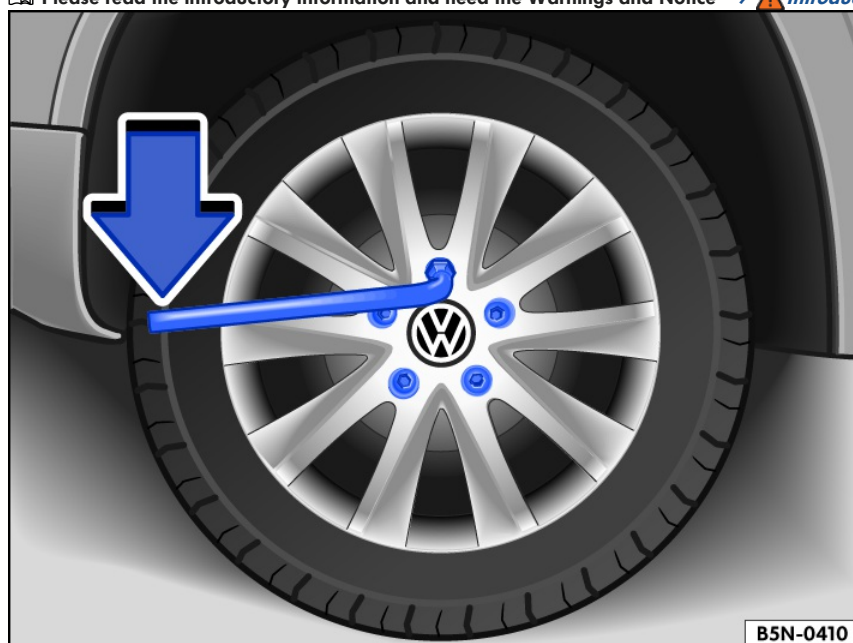

Fig. 211 Changing a tire: loosening the wheel bolts.
- Slide the lug wrench all the way onto the wheel bolt fig. 211.